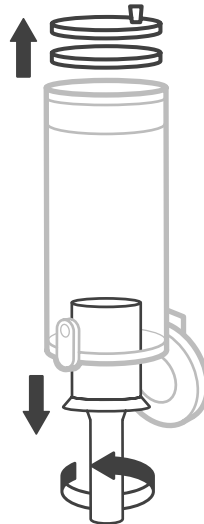

Figure 3.2
4. Rotate the metal filter counterclockwise to remove it. **[Figure 3.2]**